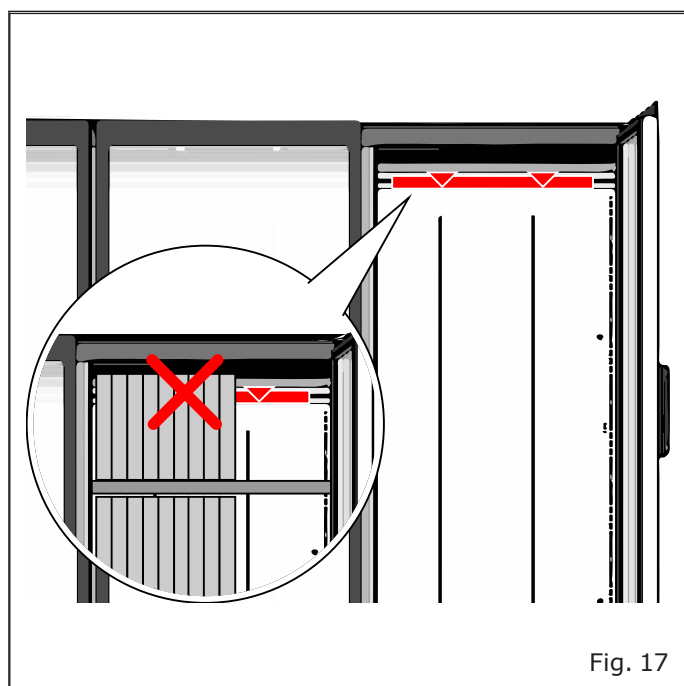

Fig. 17
- The goods do not exceed the load line ("Fig. 17").